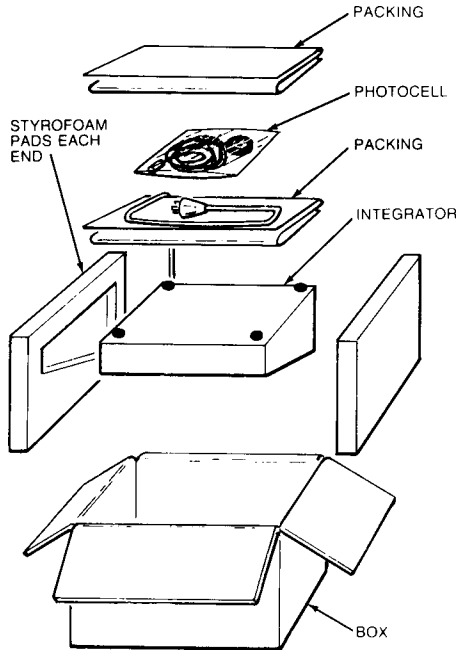
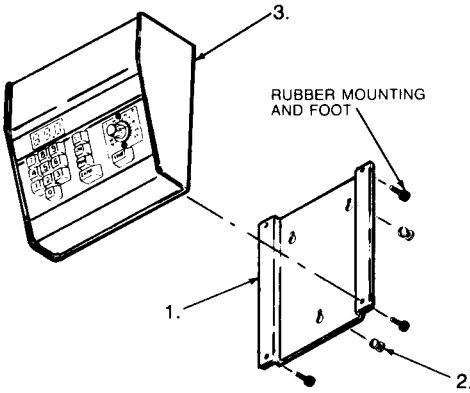
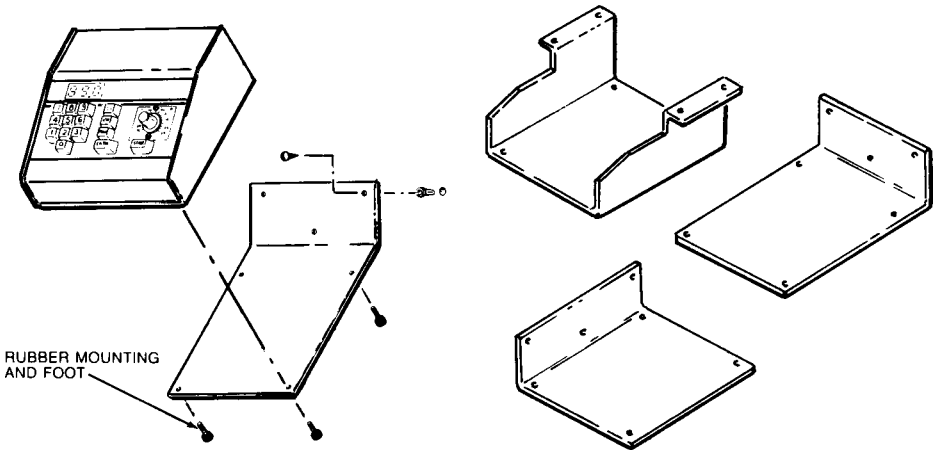

Figure 1. Unpacking Integrator
Figure 2. Flat Wall Mount
Figure 3. Different Style Mounting Brackets
- 1) Unpack instrument carefully. If there is any damage, please notify your dealer and delivery service as soon as possible. Photocell is packed under unit. (Figure 1.) Do not discard. Set up the control unit at appropriate location (Different style mounting brackets are available). (Figure 2 & Figure 3.) **IMPORTANT:** Light sources or units that do not use more than 150 Watt can be connected directly to the control unit. The Control Unit with the letter X after the Model Number has a built in Contactor. Connect the high power light unit to output A. If second light unit is to be used, connect it to output B. Contactor is connected to output A only and will control an incandescent light source up to 1000 Watts. If your light source is of higher wattage than this and does not have a built-in Contactor or relay have an electrician install Contactor or relay with a 120 volt AC coil. This coil to be operated by the control unit of the Integrator. If the integrator is to be used on a camera that does not have an external timer control connection, contact your dealer or your electrician.